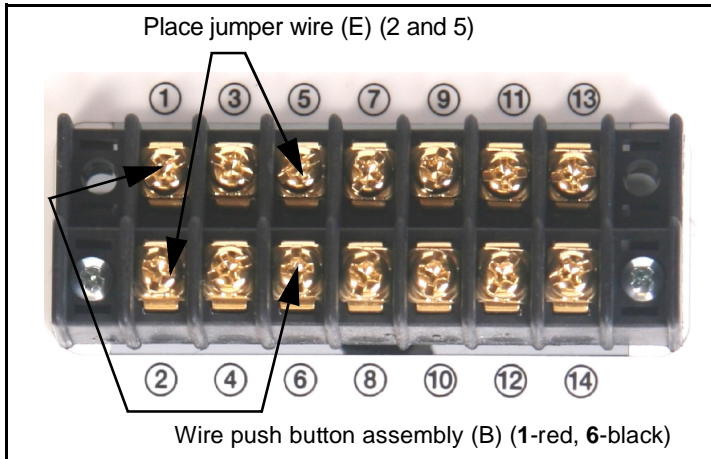

Figure 5
9. Place the jumper wire (E) on the external wiring terminal contacts labeled **2** and **5**, and wire the push button assembly (B) to contacts **1 (red)** and **6 (black)**. (See Figure 5)